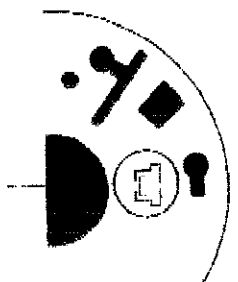

Figure 5 - Fitting tamperproof tabs. To use the two locking tabs remove them from the mounting plate and insert in assembled housing as shown.
- If the detector is to be locked into position the two tamperproof tabs need to be removed from the base plate. Retain until final assembly of detector. See Figure 5
- Fit the two tamperproof tabs inserting in the positions provided between the base plate and detector unit. Once fitted the detector can only be removed from the base plate by first removing these tabs by gently prying out with a screw driver. See Figure 5